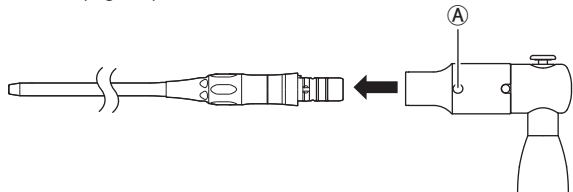

Fig. 33
- 5** Remove the attachment/handpiece from the Spray Adaptor for Slim by depressing the release button **(A)** on the Spray Adaptor for Slim (Fig. 33).